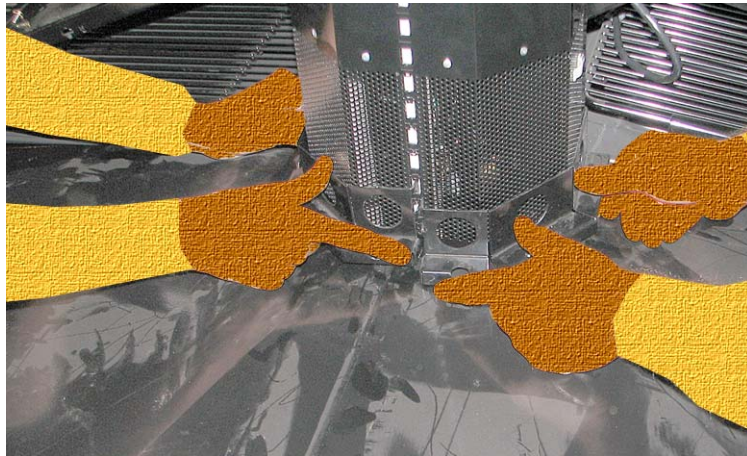

Figure 23A — Replace Bottom Flue Bracket
**21** As shown in Figure 23A, position the bottom flue brackets in the fourth hole from the bottom which will leave two open holes below the bracket. Refer to diagrams in Figure 26A and Figure 26B.